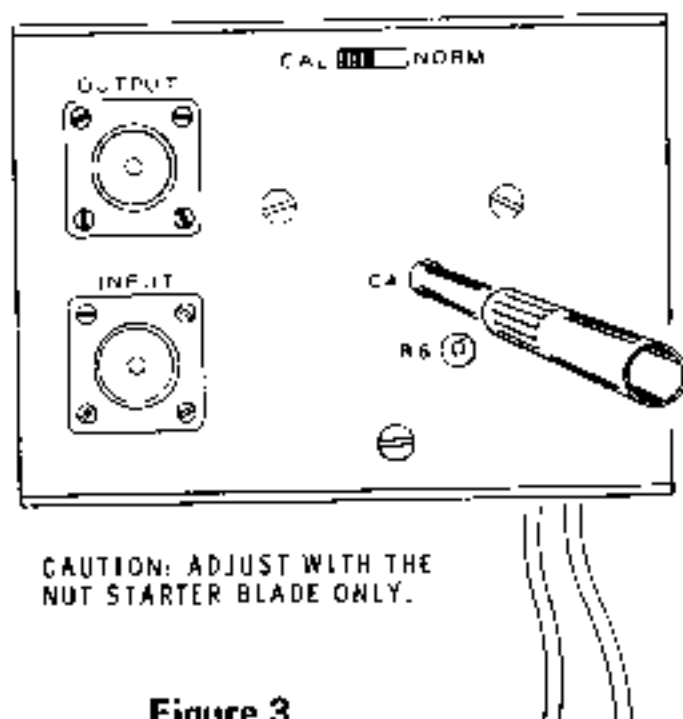

Figure 3
2. (✓) Connect a 50-ohm noninductive load, such as the Heathkit Antenna, to the remote chassis OUTPUT jack. (See Figure 3 on Page 14).
3. (✓) Connect the transmitter output to the INPUT jack on the remote chassis. (See Figure 3.)
6. (✓) Set the CALIBRATION switch, on the rear of the remote chassis, to NORM (see Figure 3).
12. (✓) Refer to Figure 3, and adjust SWR NULL trimmer C4, through the rear of the remote chassis, with the alignment tool (nut starter) for the best null or greatest dip of the meter needle. This reading should be at or near zero. NOTE: Do not use any metal tool other than the nut starter blade to make these adjustments.